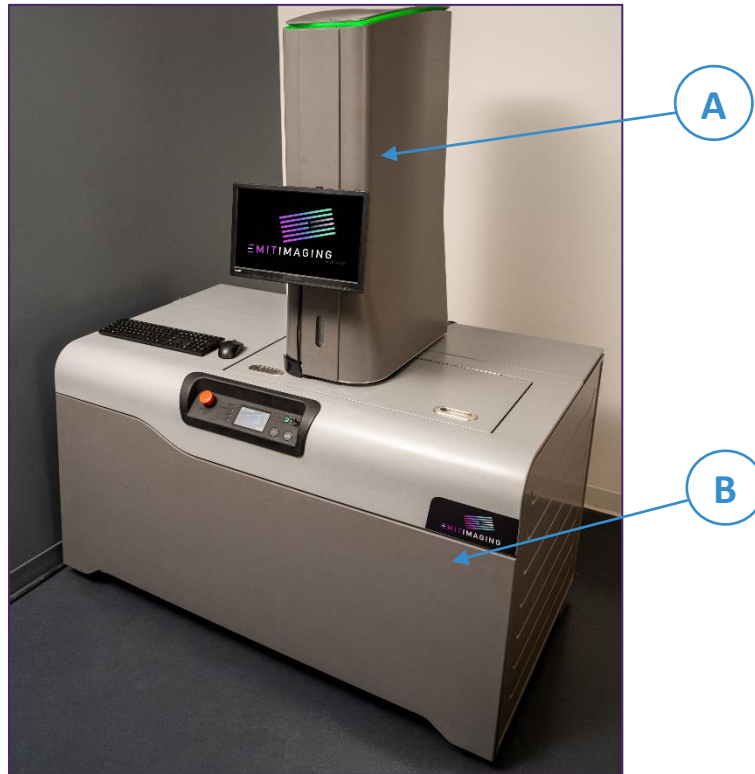

Figure 2: Major Components
The Xerra system has two major sections: the tower (A) and the main body (B), as shown in Figure 2.
Just below the display screen, in the front center of the tower, a handle is used for rotating the tower. When the tower is open, it is positioned parallel to the long axis of the main body. When the tower is closed, it is positioned at a right angle to the long axis of the main body (as shown in Figure 2). To prevent frost, the refrigeration system only runs if the tower is completely closed.